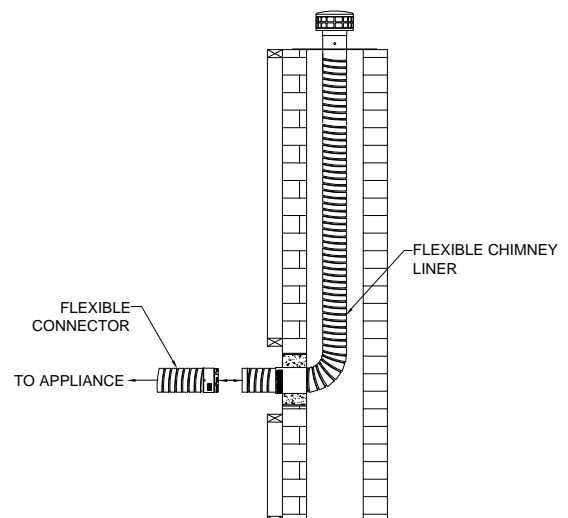

FIG. 1
- a. The inlet of the chimney lining system, (See FIG. 1)